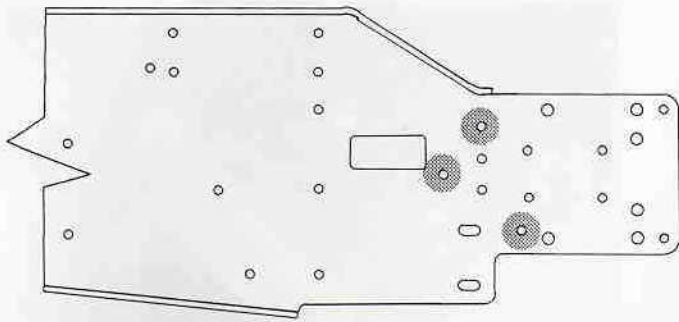
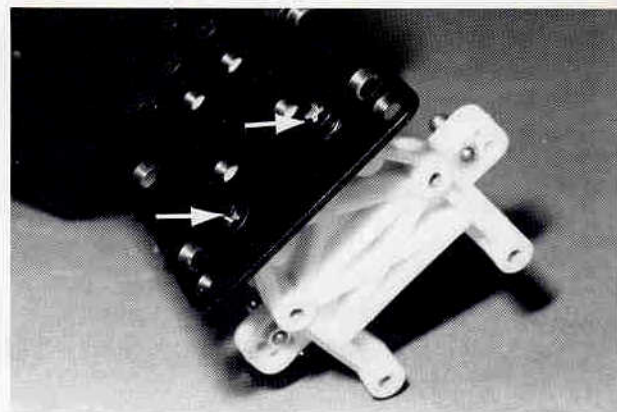

**Fig. 102**
**Fig. 109**
□ **Figs. 102, 103, 104 & 104A** Open the engine mount bag #7-16 and take out the two #7625 black engine mounts. Also take out three #6292 4-40 x 3/8" FHSScrews. Fig.102 shows the rear engine mount and the three #6292 FHSScrews used to mount it to the chassis. Fig. 103 shows the rear mount installed on the chassis. Figs. 104 & 104A show the three #6292 screw mounting locations.
□ **Figs. 108, 109 & 109A** Remove the #7625 front black engine mount that we set aside in fig. 102, and four #6292 4-40 x 3/8" FHSScrews from bag #7-16. Fig. 109 shows the #7625 front engine mount installed.